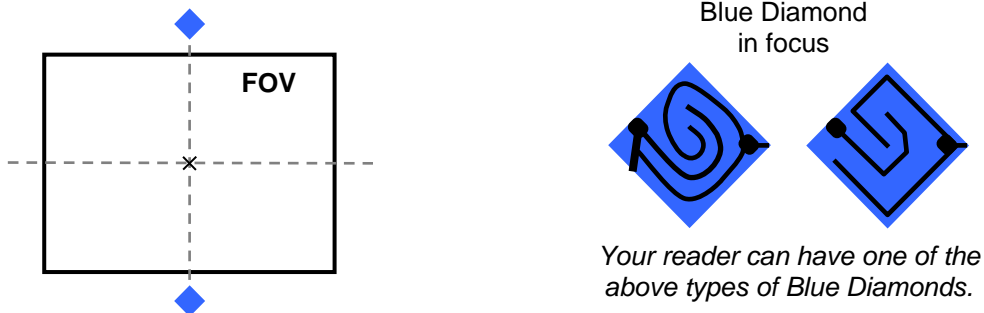

Figure 9 – Focus Function Using Blue Diamonds
- a. At the correct reading distance (see the Reading Diagrams in Chapter **Error! Reference source not found.** of this Reference Manual), adjust the Focus ring towards the "Near position" until the Blue Diamonds are perfectly in focus, see Figure 9.